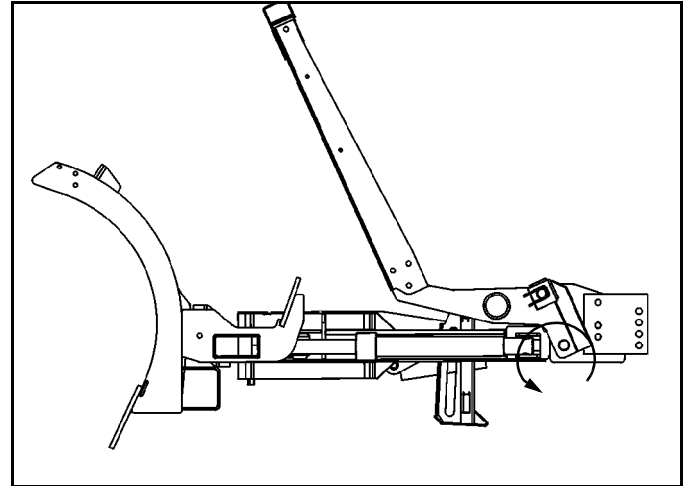

Figure 1-32
9. Rotate jack stand down and raise A-frame by pressing the up button. (See Figure 1-32).